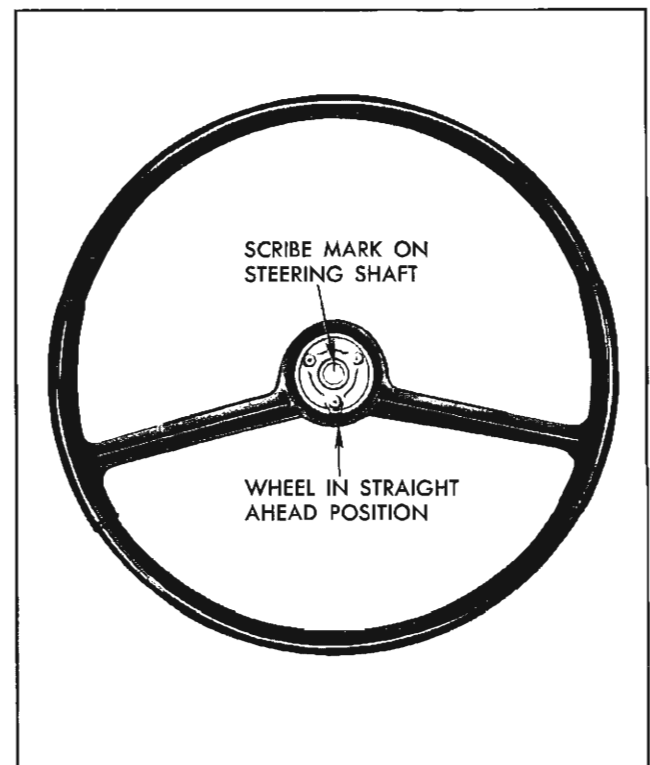

Fig. 9-7 Steering Wheel Installed
8. To replace, reverse the above procedure, making sure steering wheel is in straight ahead position (Fig. 9-7). Tighten steering wheel nut to 2½ lb. ft. torque and stake.
3. Reassemble steering connecting linkage to pitman arm. Set spokes of steering wheel in straight ahead position (mark on steering shaft up, Fig. 9-7). If road wheels are not straight ahead, adjust steering tie rods.